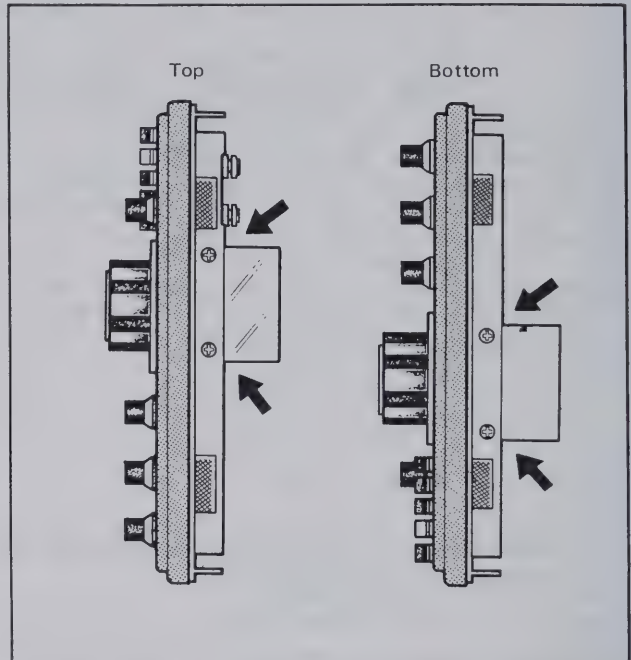

Figure 10. VFO Assembly Chassis Screws.
4. Unscrew the four countersunk screws (two on the top and two on the bottom) which hold the VFO to the front sub-panel (see Figure 10).